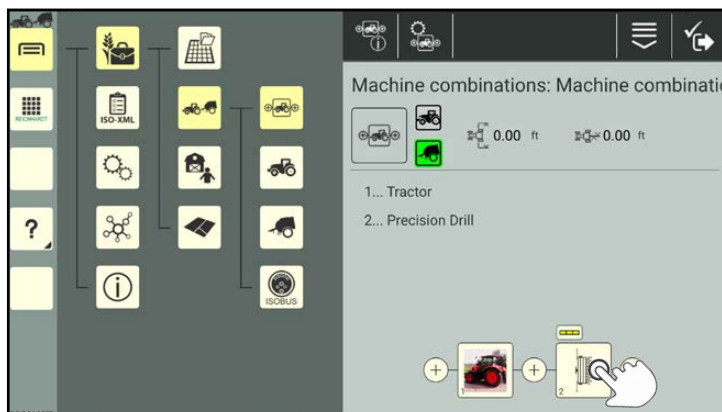

Fig. 318: Tapping the machine combination element to be deleted
1. Tap the machine combination element in the machine combination configuration (see Fig. 318).